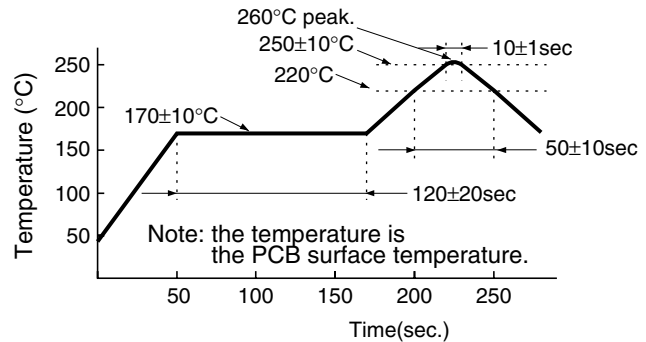

Figure.8
- (1) An example of the infrared ray reflow temperature profile is shown as follows (see Figure 8).